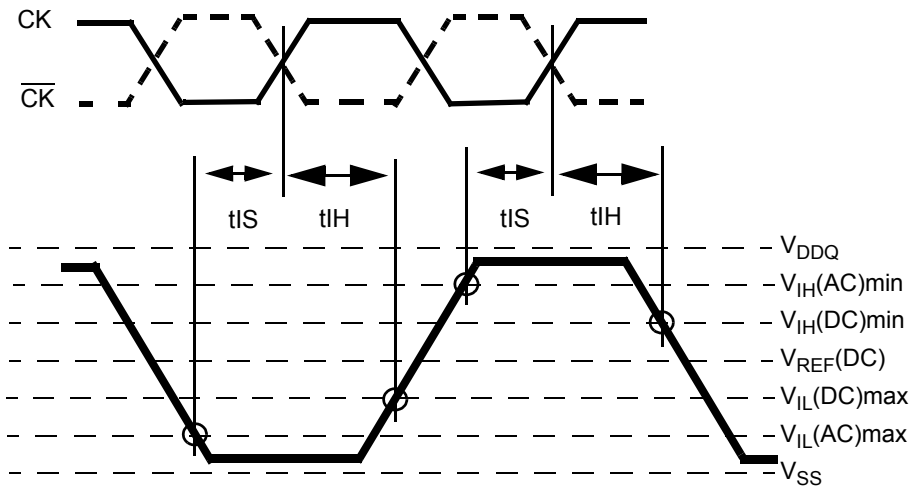

Figure 19 - Differential input waveform timing -  $t_{IS}$  and  $t_{IH}$
22. Input waveform timing is referenced from the input signal crossing at the  $V_{IH}(\text{AC})$  level for a rising signal and  $V_{IL}(\text{AC})$  for a falling signal applied to the device under test. See Figure 19.
23. Input waveform timing is referenced from the input signal crossing at the  $V_{IL}(\text{DC})$  level for a rising signal and  $V_{IH}(\text{DC})$  for a falling signal applied to the device under test. See Figure 19.